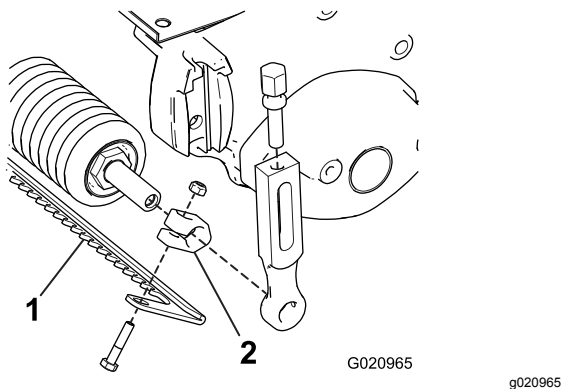

Figure 2
1. Insert a shaft clamp onto each end of the roller shaft (Figure 2).
4. Position the scraper between the front roller and the cutting unit as shown in Figure 2.
5. Loosely install the scraper to each clamp with a bolt and nut (Figure 2). Do not tighten.